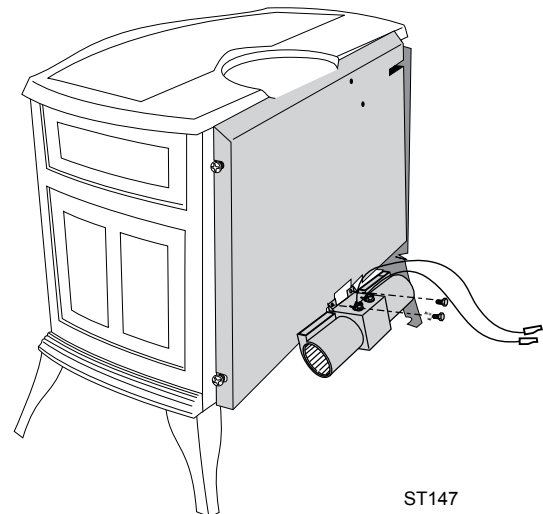

Fig. 51 Secure Blower assembly to lower back of the stove.
- Unfasten the two machine bolts attached to the lower back of the stove. Figure 51
- Using the two bolts secure the blower assembly to the rear of the stove. Figure 51